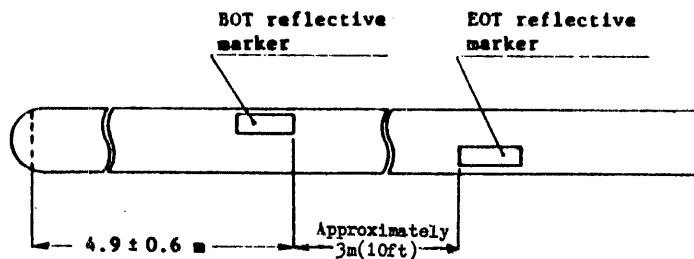

Figure 4-4. Beginning of tape and end of tape reflective markers.
- (1) Obtain a magnetic tape and install two new reflective markers as shown in Figure 4-4.